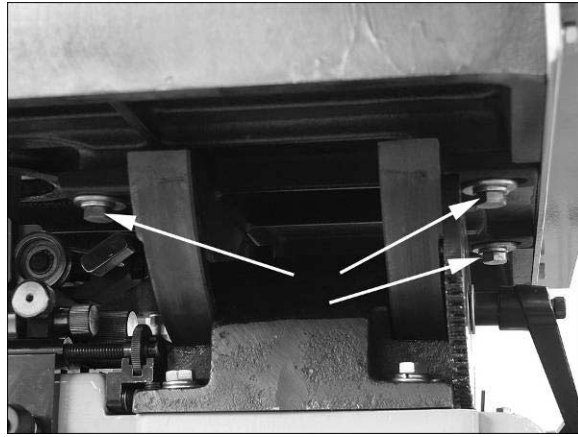

Figure 14
- If the miter slot is not parallel to the blade, loosen the four *hex cap screws* that secure the table to the trunnion (Figure 14 shows three of them), and shift the table as needed until the miter slot is parallel to the blade.